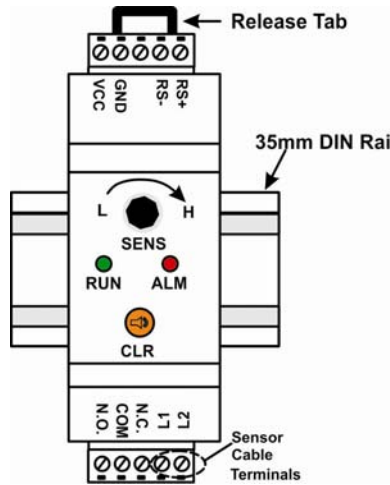

Figure 1: Mount to DIN Rail
- Remove the E-LDA-LC2 from its packaging and snap onto the DIN rail with the release tab towards the top. Shown in Figure 1.